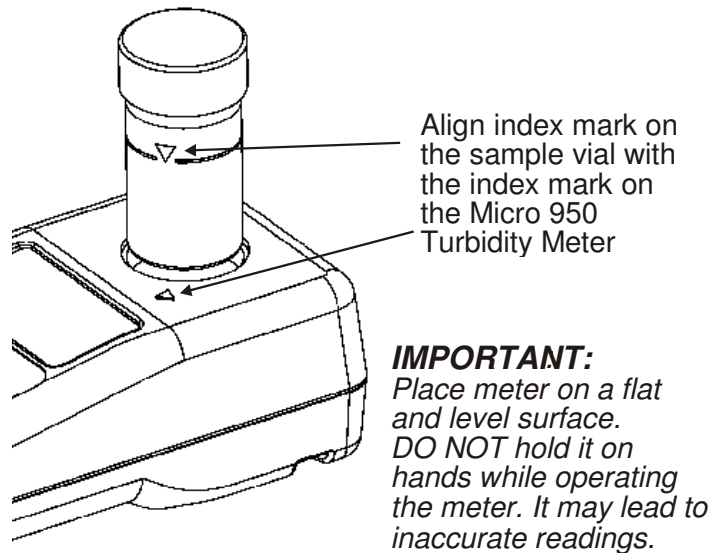

Figure 9: Align Sample Vial's Mark with Meter's Index Mark
- 5 After the power-up sequence, the display blinks [--Rd--] for about 12 seconds. See Figure 9.